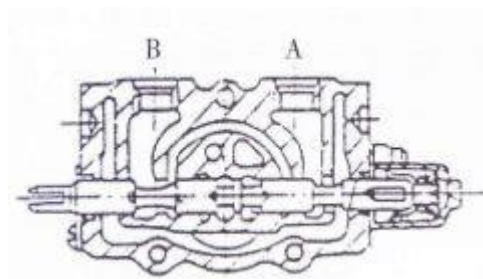

Fig. 5-5 Push-in Slide Valve
b) Push the slide valve (Fig. 5-5)